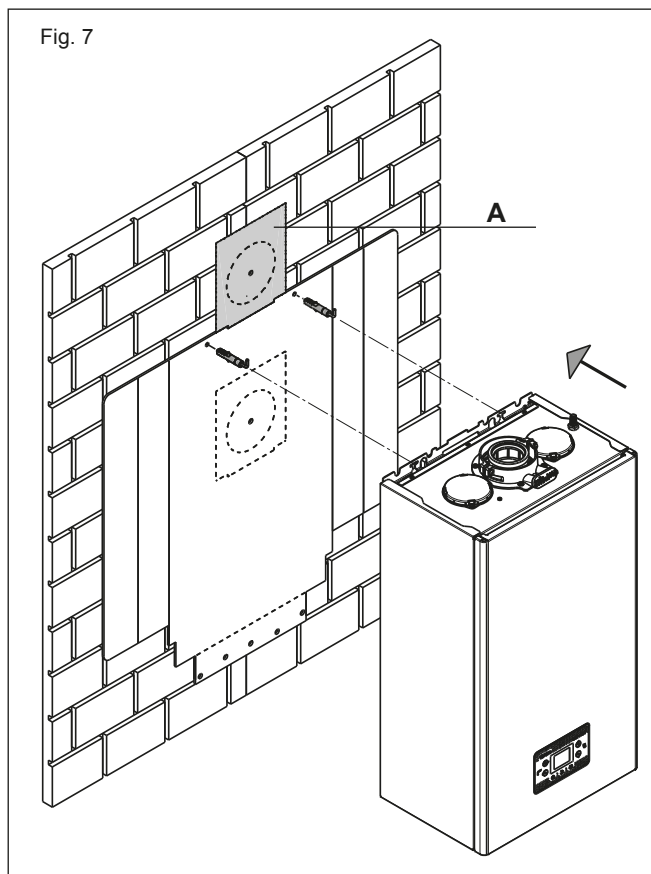

Fig. 7
When the position of the appliance has been decided – using the template supplied – carefully mark the position of the anchor holes (see Fig. 7) and flue-hole (if applicable).
Fig. 7: Using the template (A) mark and drill a 125mm hole for the passage of the flue pipe. Both horizontal terminals (fixed & telescopic) have an eccentric configuration, that enables condense fluid to drain back to the appliance; consequently the terminals should be installed level.